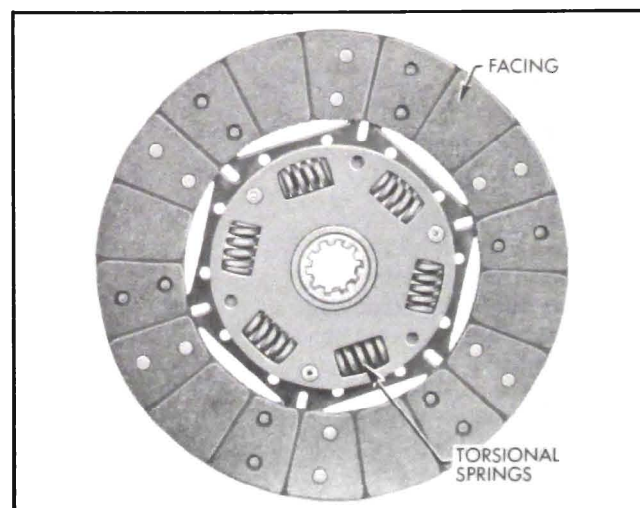

Figure 4-2—Driven Plate—Transmission Side
The outer area of the driven plate is divided into segments which are formed in low waves to provide springs between the plate facings and thereby cushion engagement of the clutch. A woven facing, grooved to give quick release, is riveted to each side of every segment of plate. When the clutch is fully released, the waved segments cause the facings to spread approximately $.085''$ and the movement of pressure plate provides an additional clearance of approximately $.030''$ to assure full release of driven plate. See Figure 4-2.
3. Clutch Driven Plate. Inspect driven plate for condition of facings, loose rivets, broken or very loose torsional springs, and flattened cushion springs. See Figure 4-2.